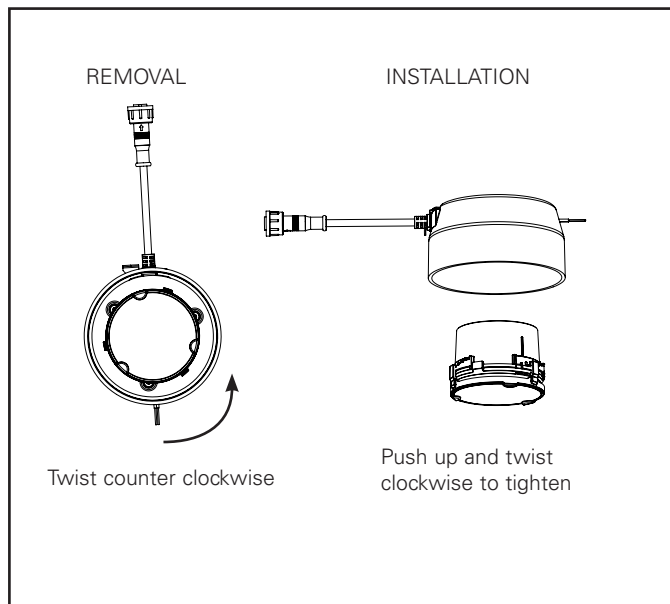

Figure 15.
1. The optic can be removed and replaced to provide a different beam angle. To remove optic, twist counter-clockwise. To install, insert optic and twist clockwise (Figure 15).
3. Remove the optic (see figure 15).